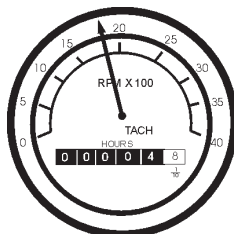

Figure 53. Engine Tachometer Gauge
17. The _____ (Figure 53) will indicate the speed of the engine when the generator is operating. Under normal operating conditions this speed is approximately 1800 RPM's.